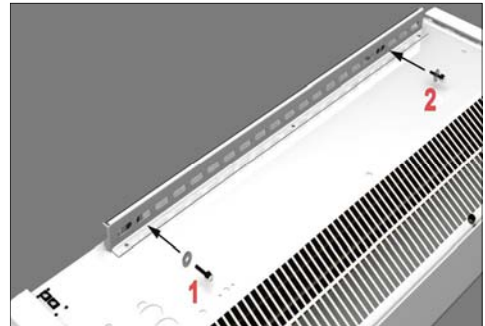

Fig 5
Step 4 Through top rear rail slots screw one M6 x 25mm fixing bolt and M6 x 20mm washer onto each wall bracket insert (see 1 and 2, Fig 5).